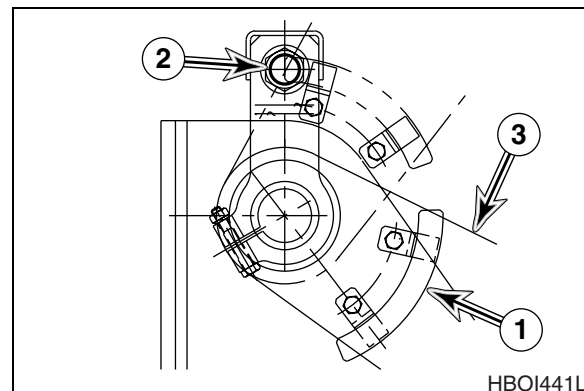

Figure 41
Placing bucket lever in "Boom Raise Detent" position will lock bucket lever in raise boom position. Boom will raise until trip plate (1, Figure 41) makes contact with bucket height limit switch (2). When limit switch is tripped, boom will stop raising and bucket lever will automatically be returned to "NEUTRAL" position. Trip plate can be adjusted to control maximum height that boom can be raised.
Trip plate (1, Figure 41) must always be set to contact limit switch (2) before boom cylinders reach maximum extension. Maximum extension causes pump to force fluid over relief valve.